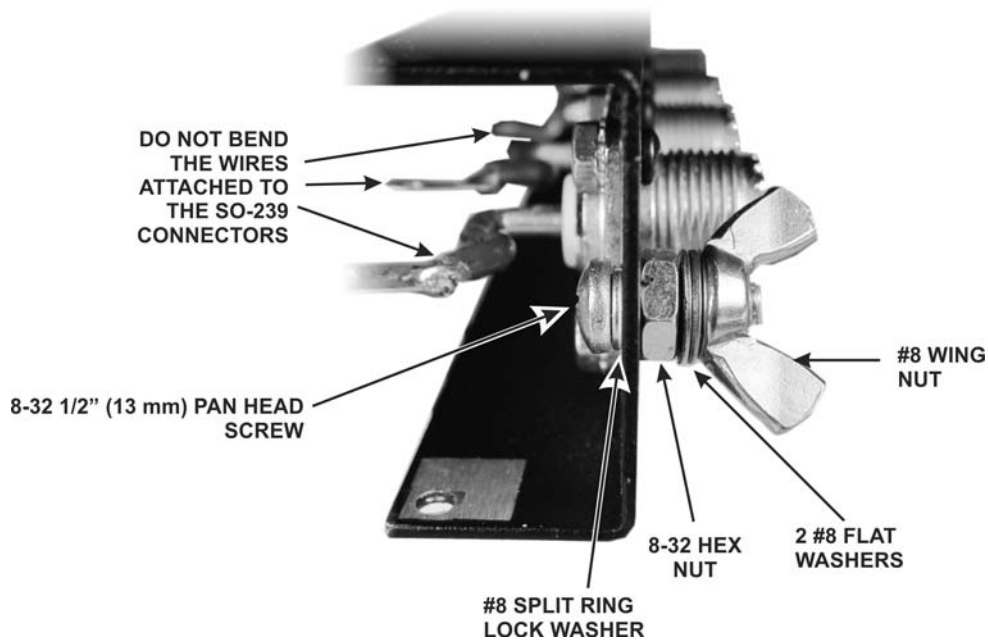

Figure 22. Installing the Ground Terminal.
□ Mount the ground terminal at the end of the rear panel next to the ANT 3 connector as shown in Figure 22. Install the screw, lock washer and nut first and secure the nut so the screw cannot turn. Then add the two flat washers and the wing nut.